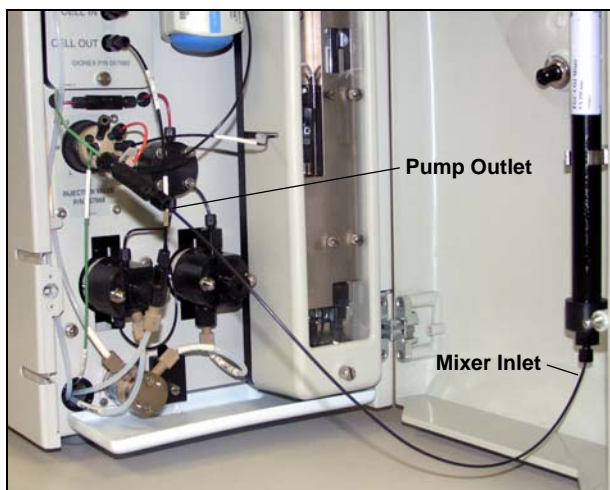

Figure 5-69. Pump Outlet Connected to Mixer Inlet for Mixer Hydration
4. Connect the pump outlet to the mixer inlet (see Figure 5-69).